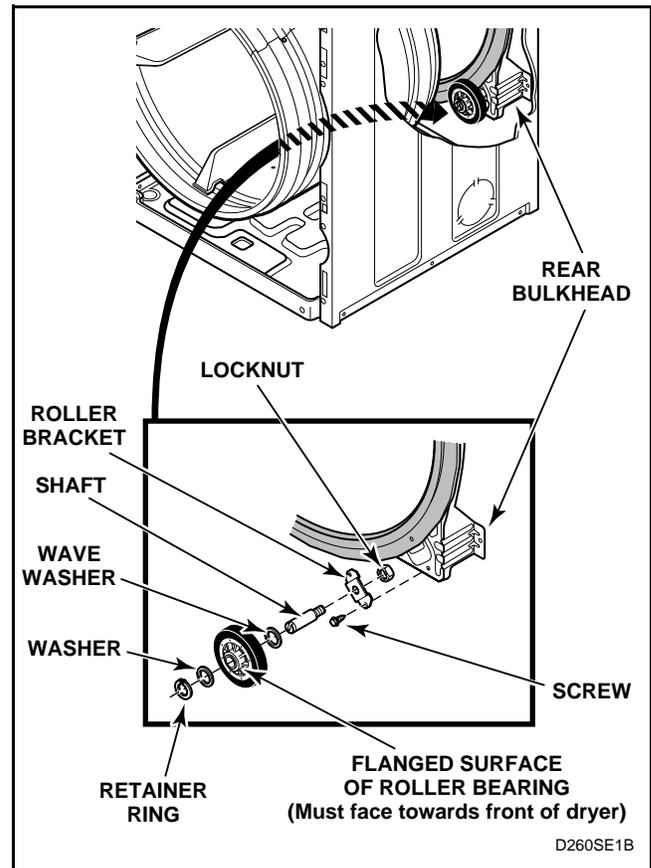

Figure 32
- g. Pull cylinder forward allowing rear of cylinder to drop down exposing rollers. See *Figure 32*.
- h. See *Figure 32* for removal of roller from bulkhead.